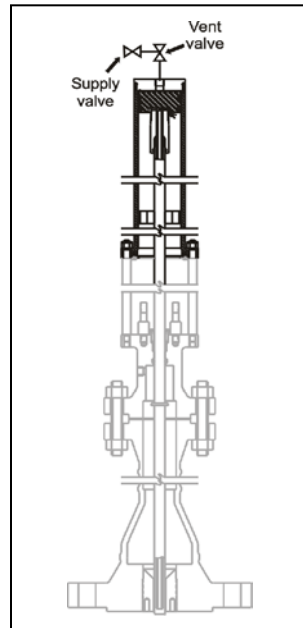

Figure 5
- 2.4.3 Connect a vent valve and a supply valve to the inlet port of the cylinder (see Figure 5). Make sure both valves are closed.